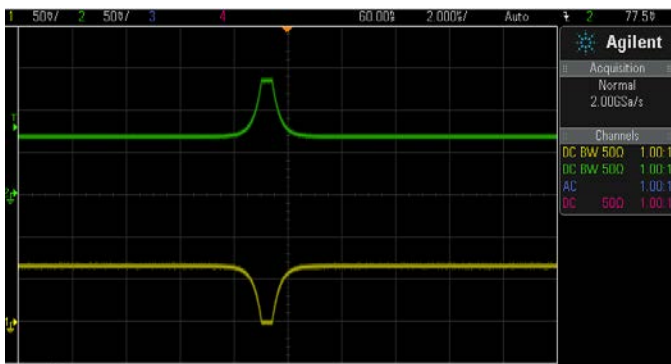

Figure 4 : Example 1 Result
- j. The output from J2 and J8 will be as displayed in Figure 4